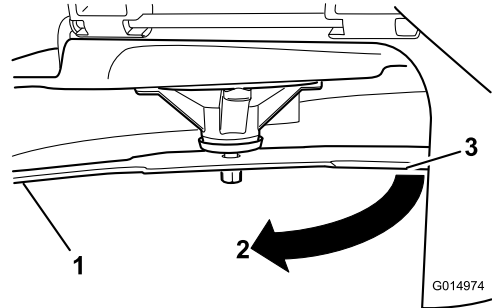

**Figure 76**
2. While wearing thickly padded gloves, or other adequate hand protection, slowly rotate the blade into a position that allows you to measure the distance between the cutting edge and the level surface the machine is on (Figure 76).